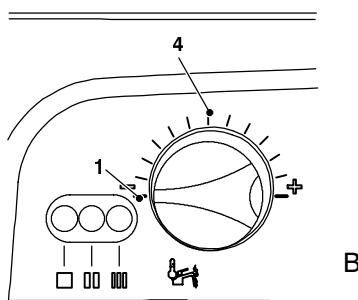

Fig. 40
At this step it is possible to visualize the current setting by keeping the reset button C pressed for more than 5 seconds. The lamps E will flash a number of times corresponding to the setting (Fig. 40).
- 9 To change the setting turn the knob B on a position corresponding to the boiler model (Fig. 40). By turning the knob B, the lock-out signal lamp D blinks quickly (2 per seconds) indicating that the setting has changed and must be memorised.